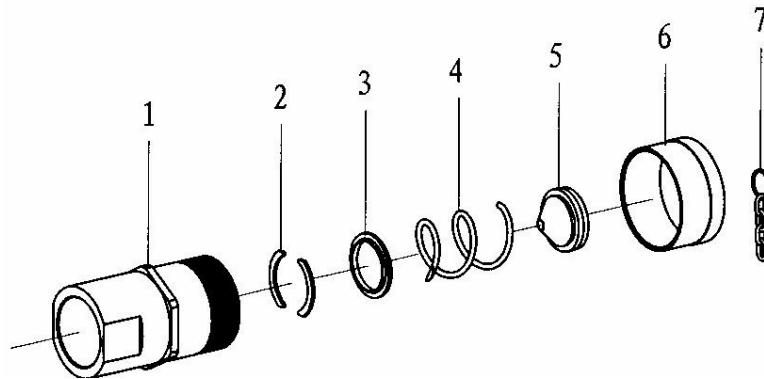

Fig. 14
- Quick coupling (2 1/8-12UN) (Fig 14, Table 11)